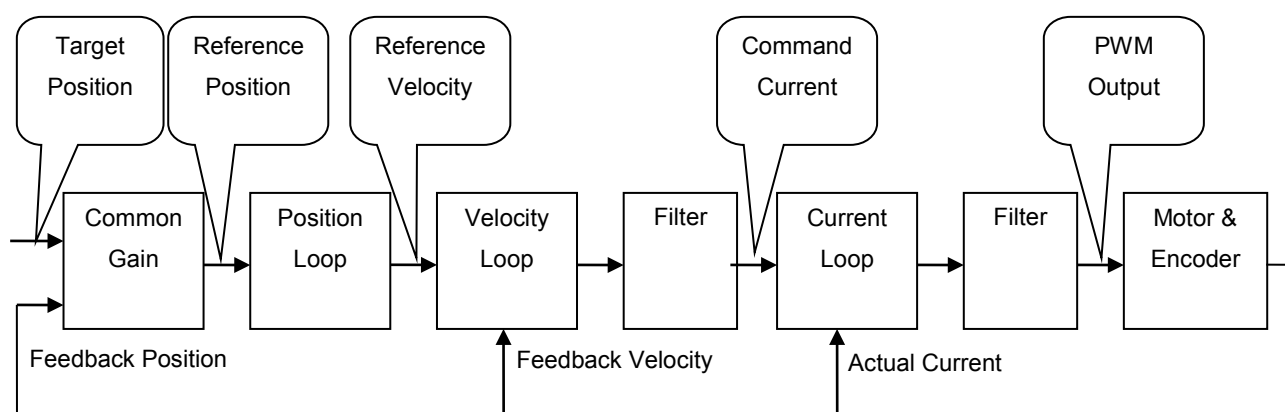

Figure 3.5.1
D1-N servo drive includes three servo loops, current loop, velocity loop and position loop, to control motor. The servo loops of D1-N servo drive are shown in figure 3.5.1. In position mode, all loops are handled by the servo drive. In velocity mode, velocity loop and current loop are handled by the servo drive. In torque/force mode, only current loop is handled by the servo drive. Current loop receives voltage command from controller and controls motor commutation. For easy operation, the servo loops of D1-N servo drive can be set and adjusted by one common gain (CG).